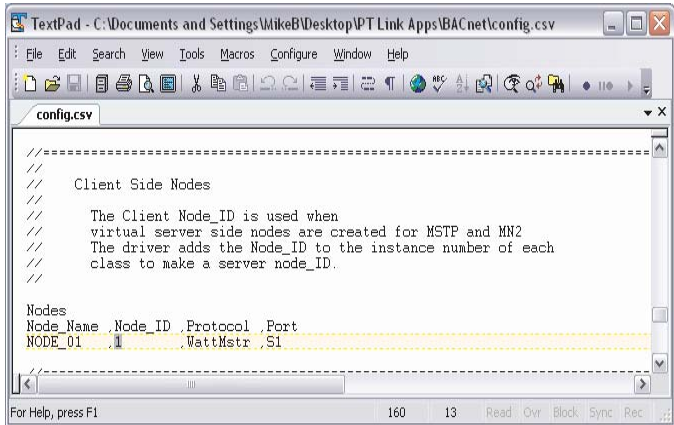

Figure 14: Changing the Node ID in Notepad
9.) You can change the Node_ID under ‘Client Side Nodes’ which is the N2 Device Instance Number (Figure 14). The default is 1. You can obtain this information from your BAS Integrator. To see how the N2 Address is calculated, see page 13.